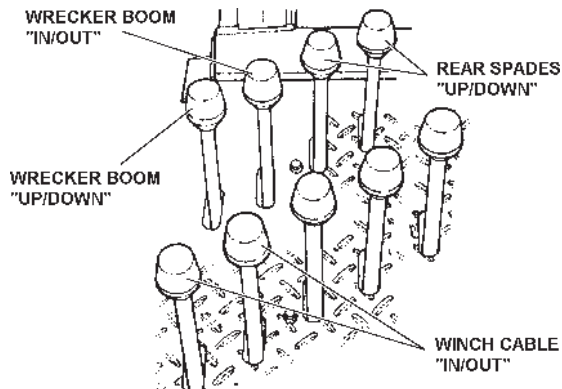

FIGURE 3.2
3.2 Each function of your wrecker can be controlled from either of the Dual Control Stations located at the rear of the Wrecker Body. See Figure 3.2.